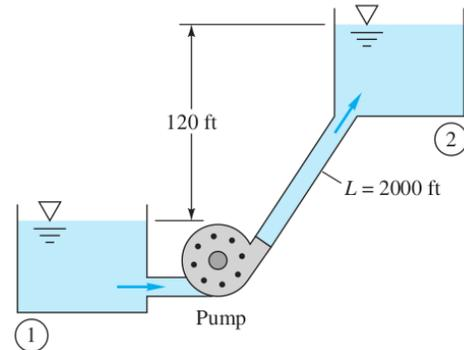

Fig. 6.6
- 6.6 Water at 20°C is to be pumped through 600 m of pipe from reservoir 1 to 2 at a rate of 0.1 m³/s, as shown in Fig. 6.6. If the pipe is cast iron of diameter 15 cm and the pump is 75 percent efficient, what horsepower pump is needed?